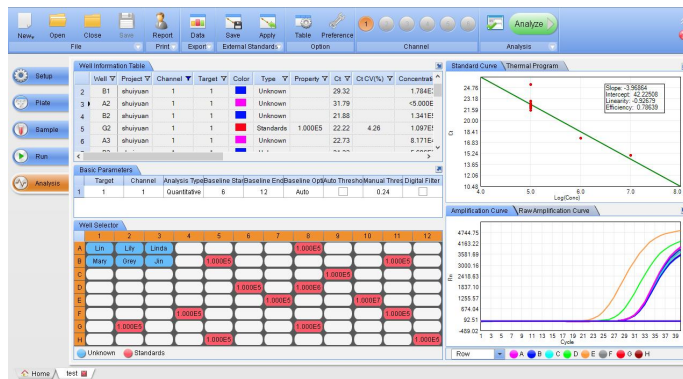

Fig 4- 31
- 3 Click **Analysis** tab to enter the Analysis screen (Fig 4- 31). On the left side of the Analysis screen there are the Well Information Table, Analyze Parameters Table and Well Selector; on the right there are experiment curves that vary according to different types of analysis.